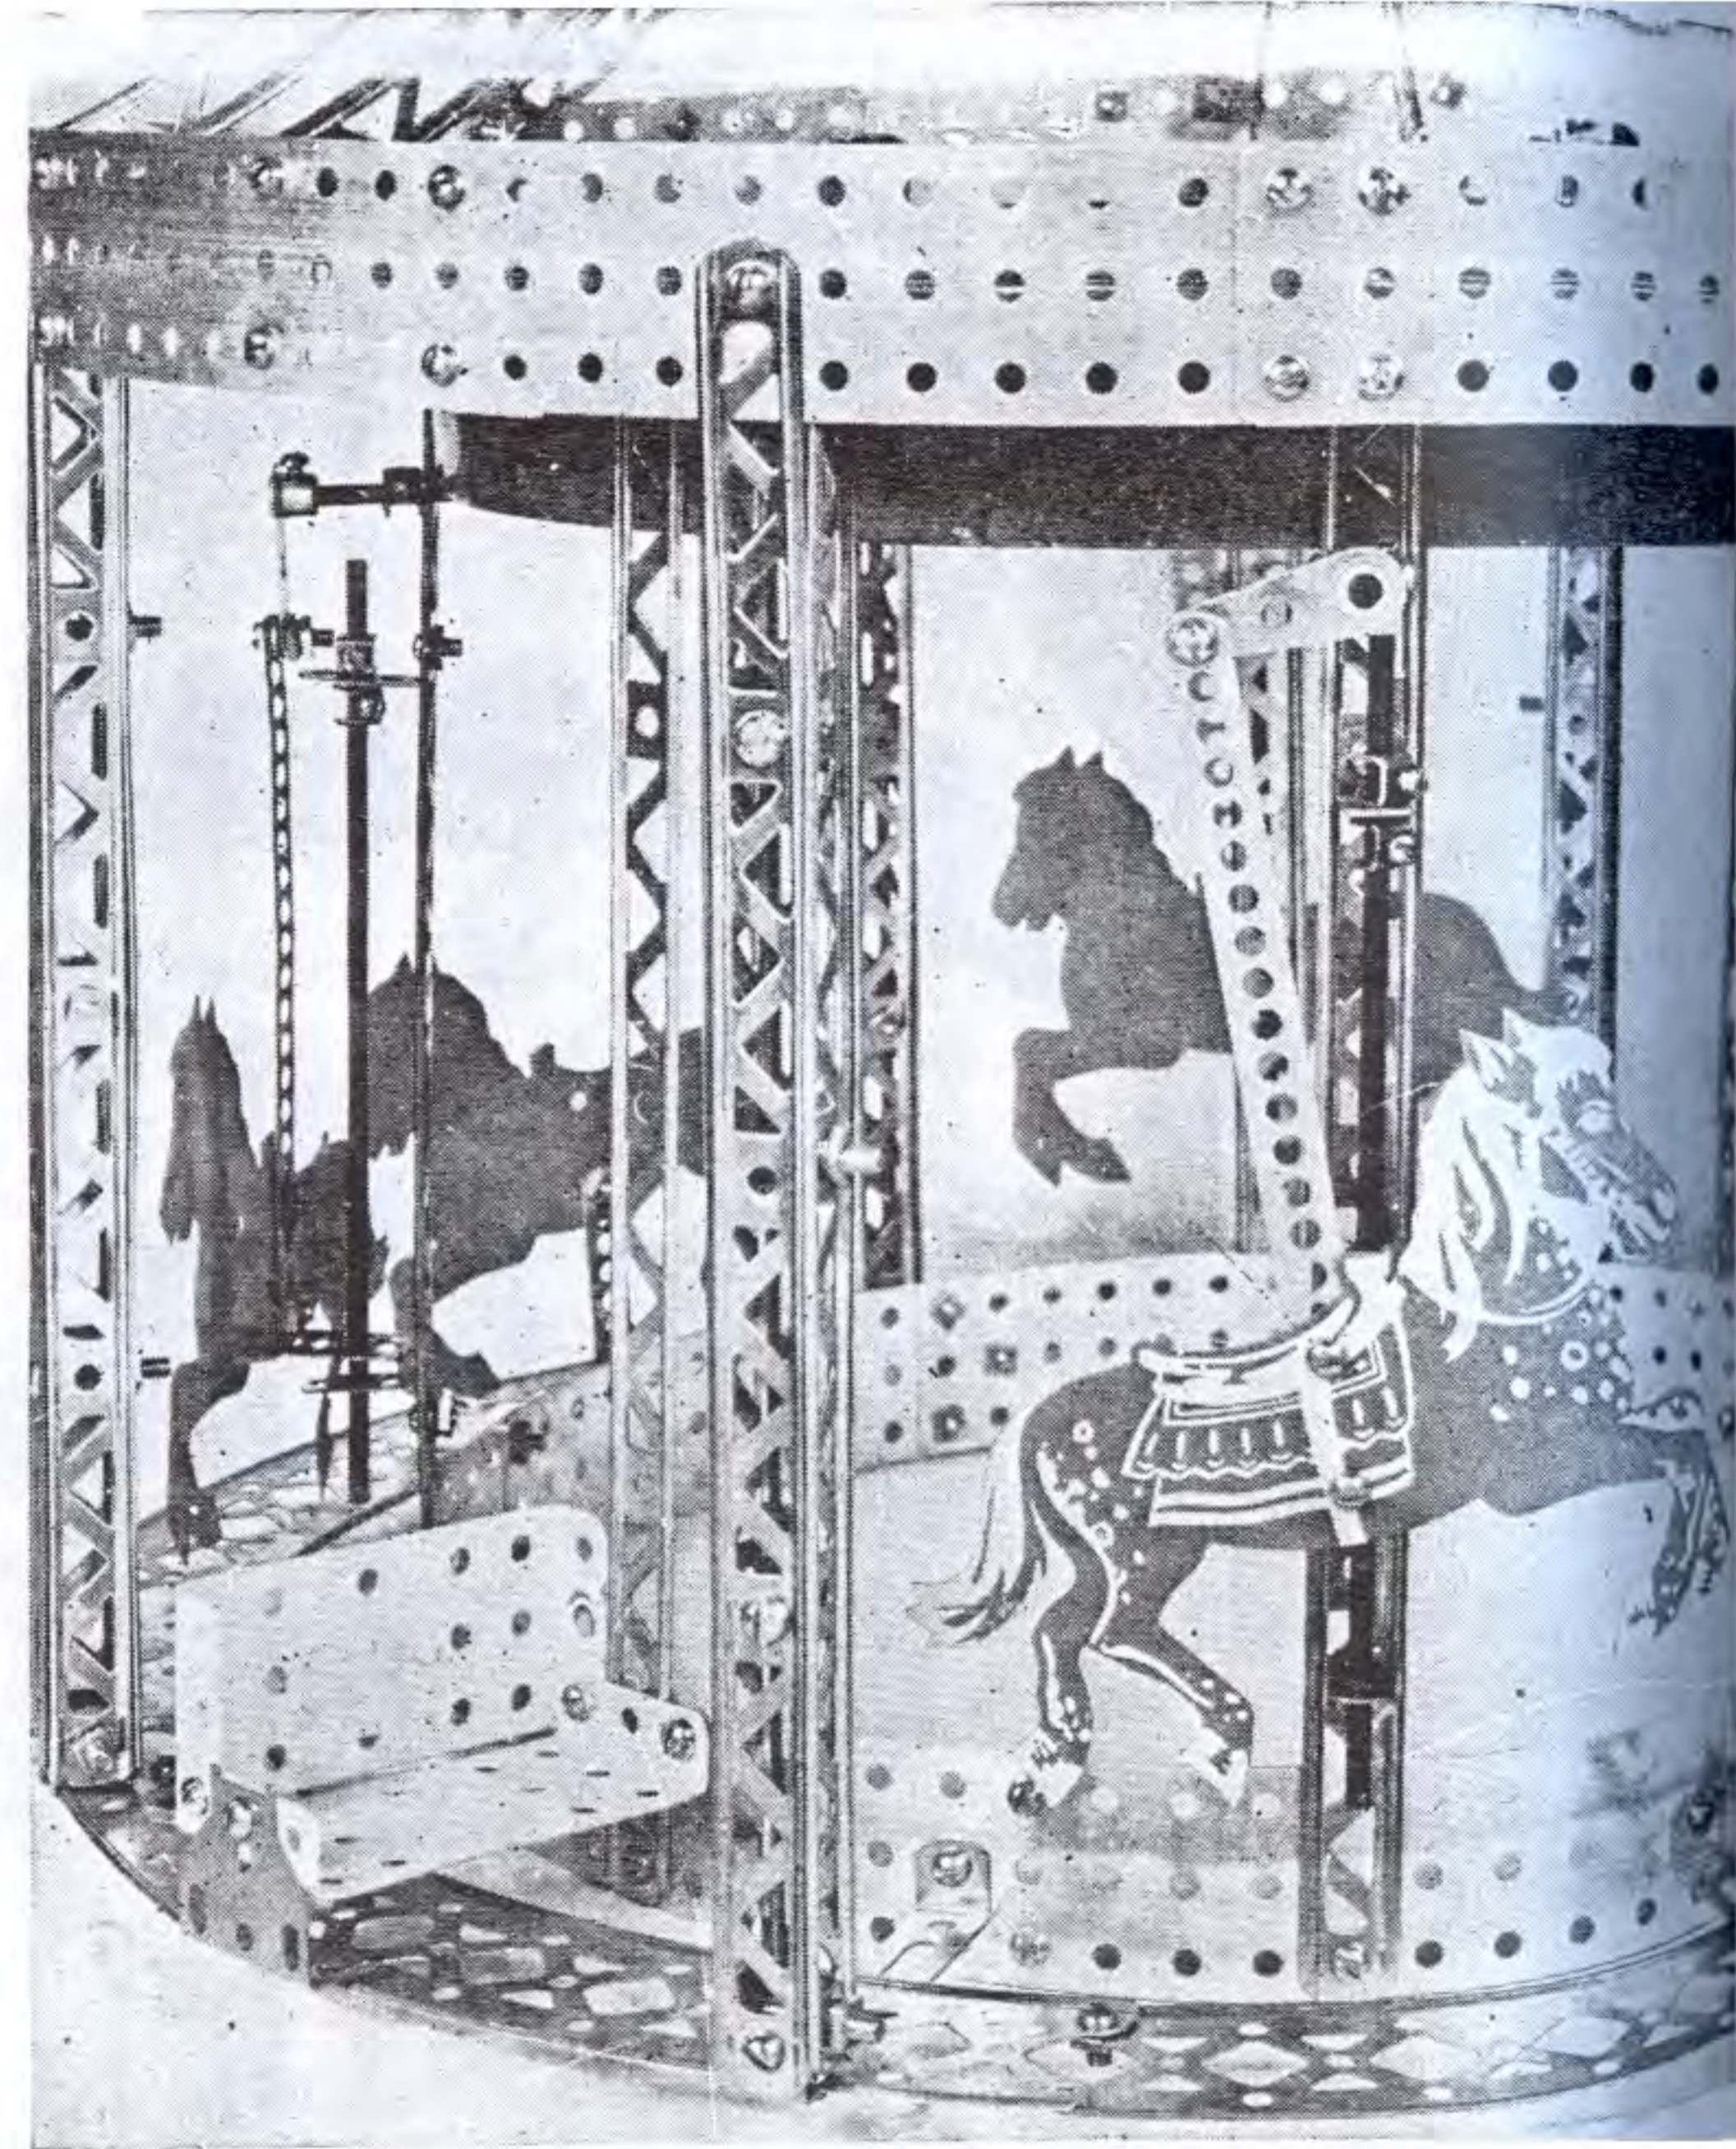
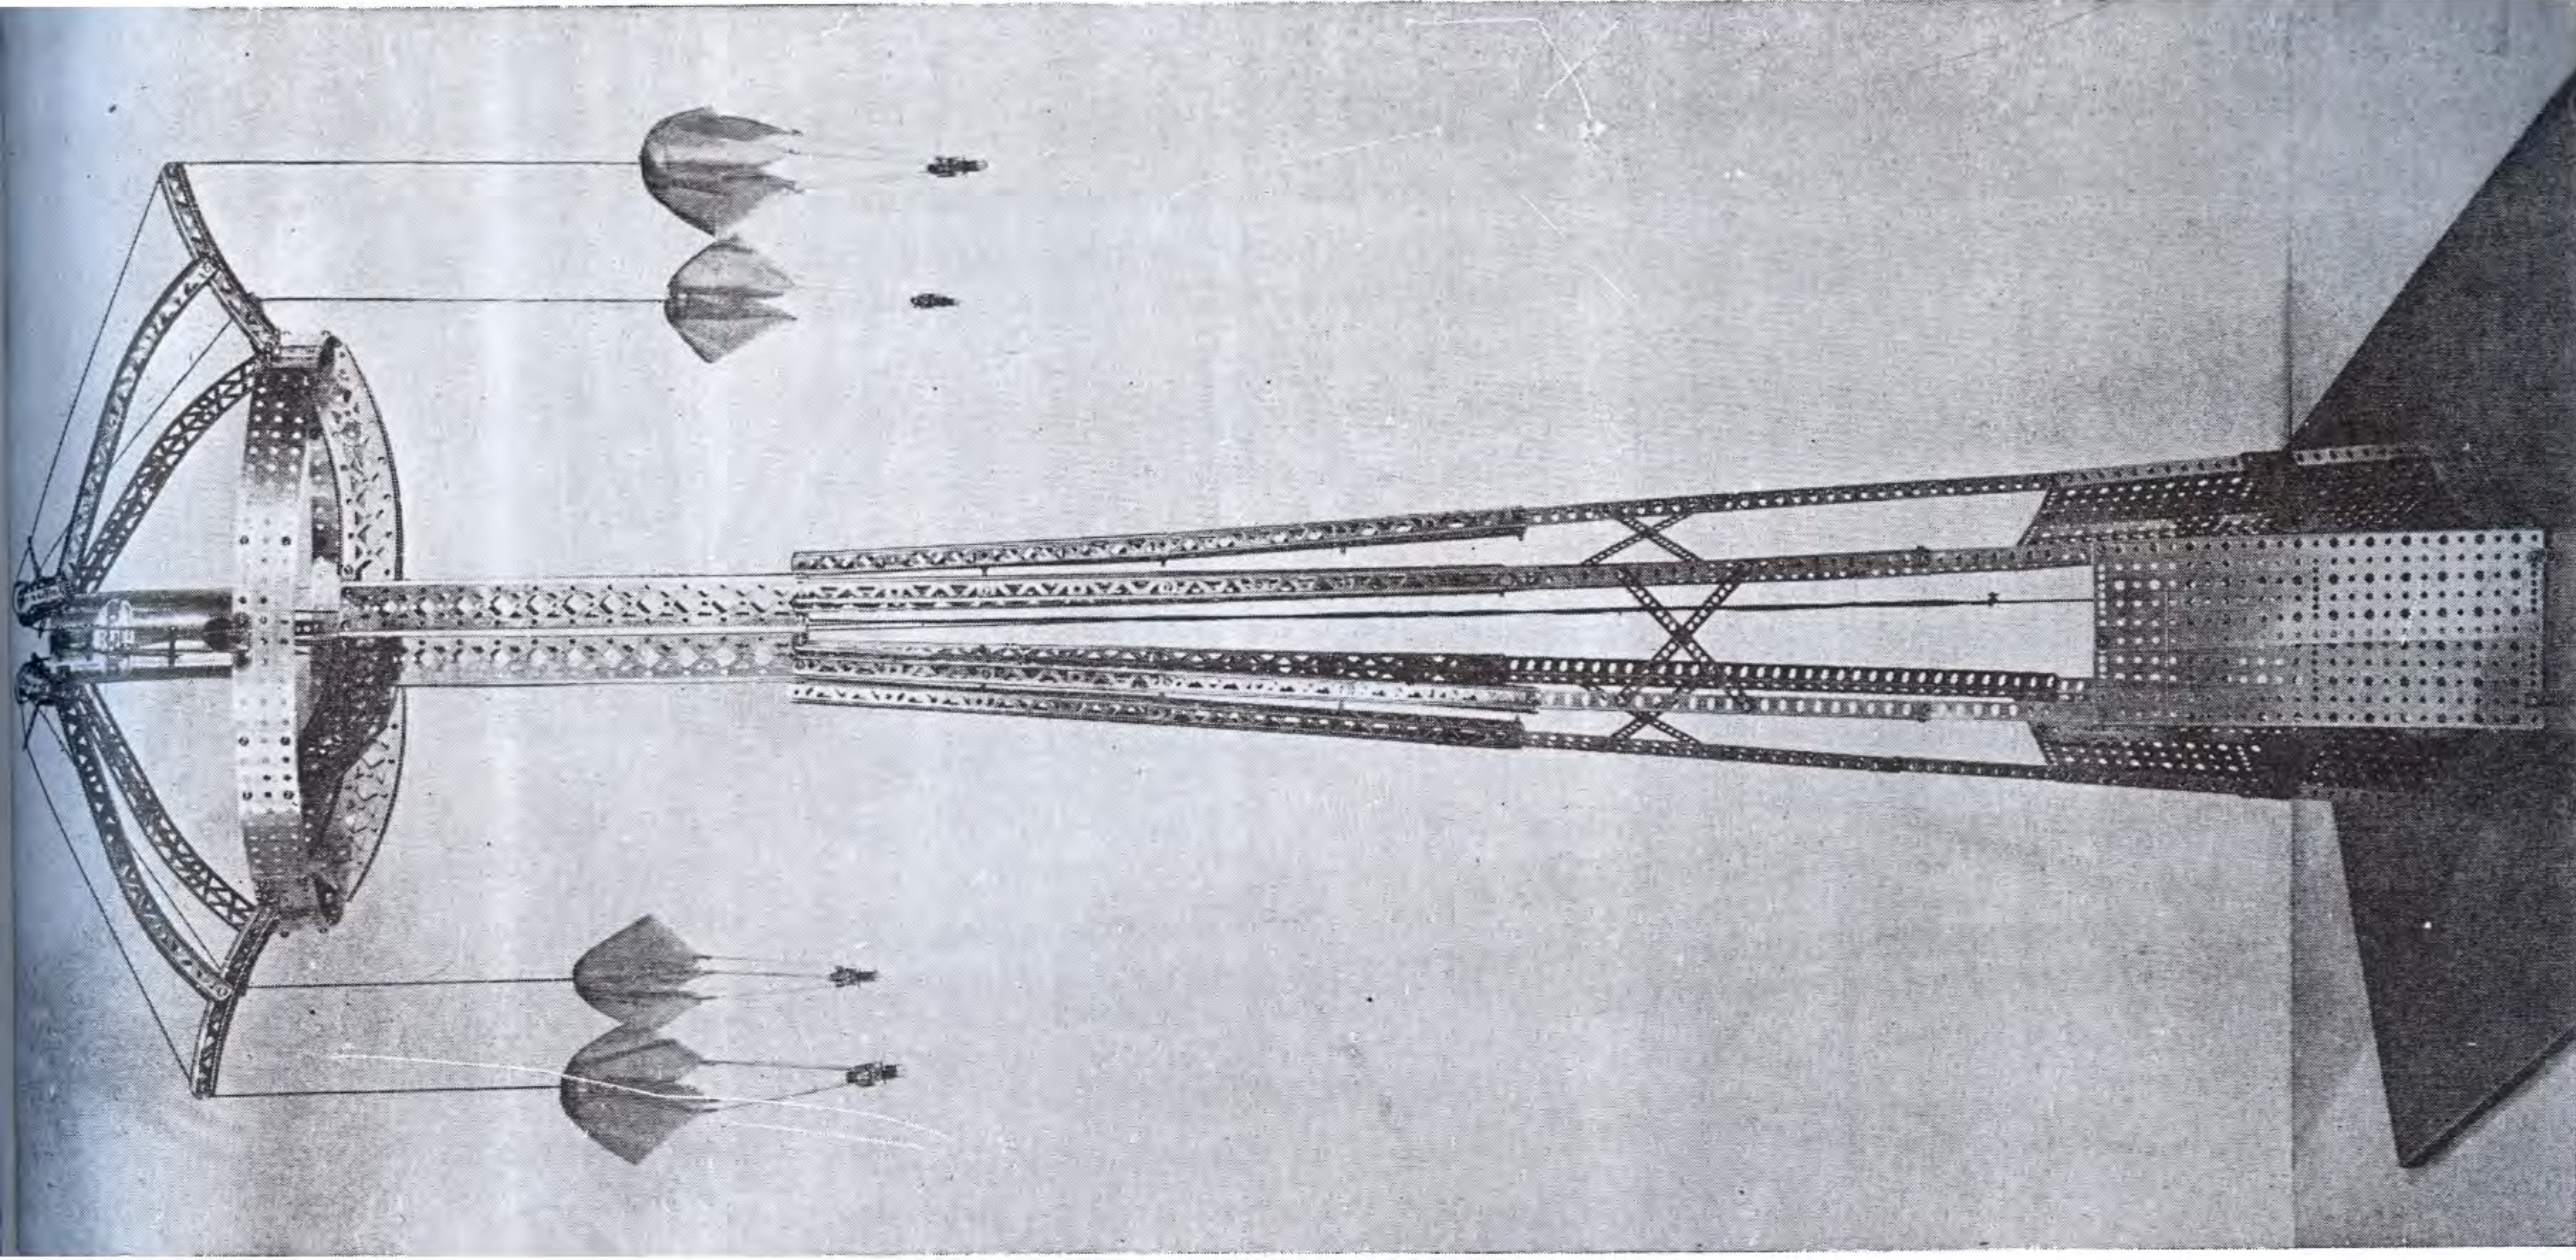

FIGURE 6
FIGURE 1
### ASSEMBLY OF HORSES —FIGURE 6 AT RIGHT
The two stationary horses are fastened to the outer bottom ring with a (G) 7 hole strip and a (CH) right angle (Figure 1). The horses that move up and down do so by using an (AA) eccentric crank (Figure 6) which is fastened to the revolving 7 1/2" axles. An (O) pawl is fastened to the horse which moves
up and down on an 8" axle which is fastened to the (C) 10" girders with two (O) pawls. The seats are constructed with two (MC) 1" x 2 1/2" base plates which are fastened to the outer bottom ring with a P79 car truck. The seat is also fastened to the inner bottom ring. See Figure 6.
You can see in Figure 1 the completed model. It is 6 feet high, has four chutes that are pulled up with the motor and then allowed to fall free. Throughout the building of this model keep referring to Figure 1. Study it as well as all the other views.
By referring to Figure 1, you will see that on top of each angle girder is fastened two square girders each made from 4 (C) 10" girders (see Standard